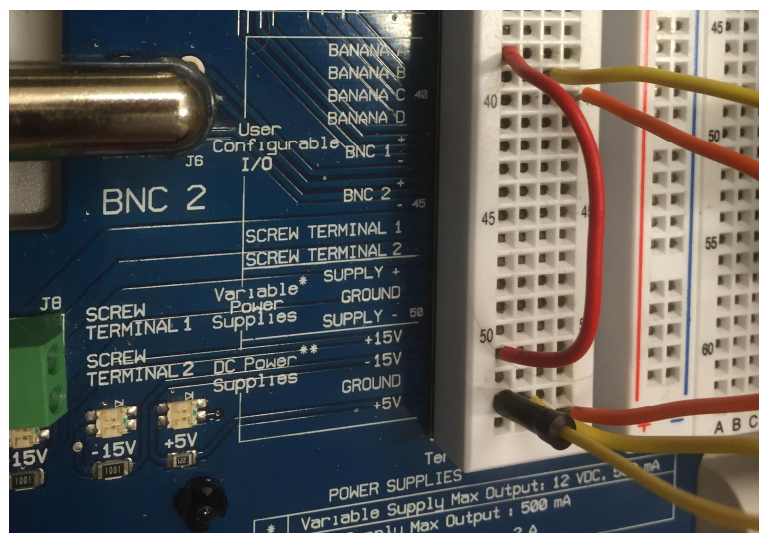

Figure 20 Power supply voltage setup to Banana A, B and C
2. Make wire connections of +15V, Ground and +5V to the Banana A, B and C connections on ELVIS (see Figure 20).